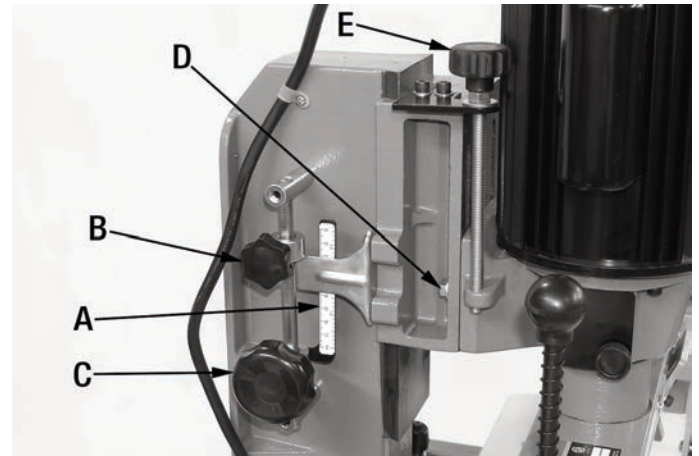

FIGURE 12
The boring depth scale (A) Fig.12 on the side of the machine displays the boring depth in Imperial and Metric measurements.
1. Move the boring head down as close to the workpiece as possible without making contact, and tighten the top depth stop lock knob (B) Fig.12, this adjustment sets the maximum height the head will travel upwards between each operation.
2. Use the scale lock knob (C) Fig.12 to set the maximum boring depth to the desired position by moving it up, this adjustment will act as a stop to prevent drilling further than desired. Use the scale (A) as a guide to make the desired adjustment.
3. For all workpieces thicker than 2-1/2", loosen the two hex. bolts (D) Fig.12 , one on each side, and turn the knob (E) to raise the boring head to the desired position.